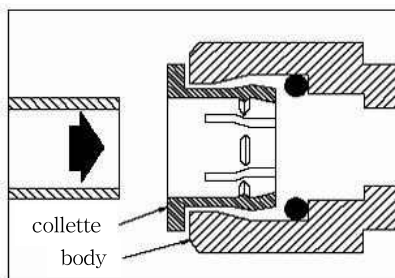

Fig. 3-1: Insert the hose into the collette.
1. Push the hose in the part assembled with collette deeply and connect (Figure 3-1, 3-2).